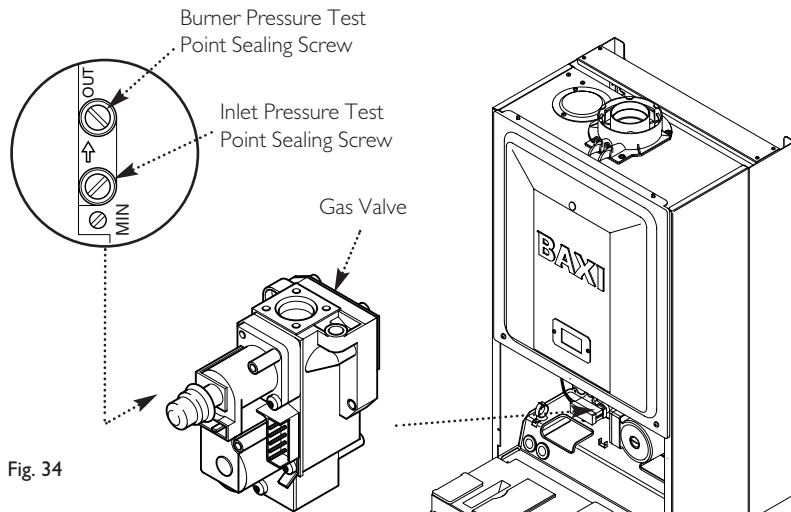

Fig. 34
3. Slacken the pressure test point sealing screw (Fig. 34) on the gas valve and connect a pressure gauge.
4. Disconnect the sensing tube from the gas valve (Fig. 34).